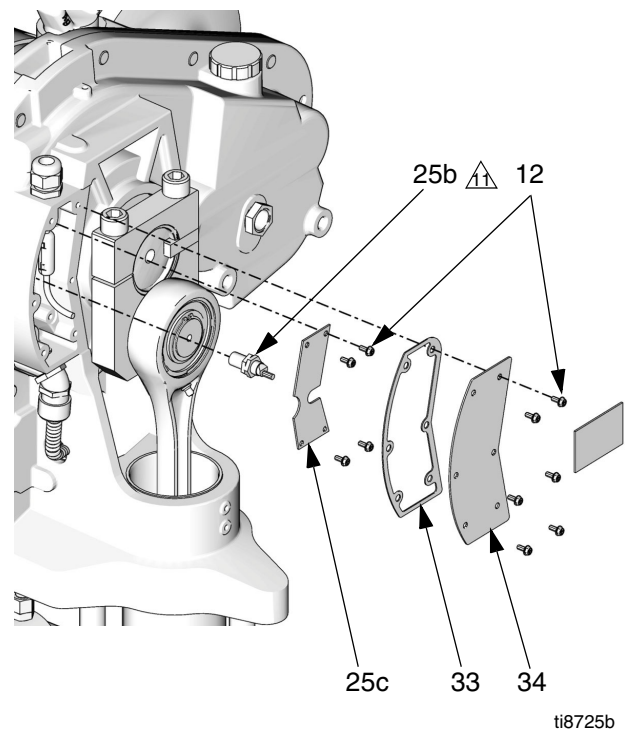

FIG. 12. TDC Sensor
4. Remove two screws (12) and the cover (32).
5. See FIG. 12. Remove six screws (12), the circuit board cover (34), and the gasket (33).
9. See FIG. 12. Remove four screws (12) and the circuit board (25c).
12. Install the circuit board (25c) using four screws (12).
16. Install the new gasket (33), the cover (34), and six screws (12).
17. Reinstall the cover (32) with two screws (12).
6. Disconnect the position sensor wires and the IS circuit field wires from the two terminal blocks (46). Retain the terminal blocks. See the **Electrical Diagrams**, page 12.